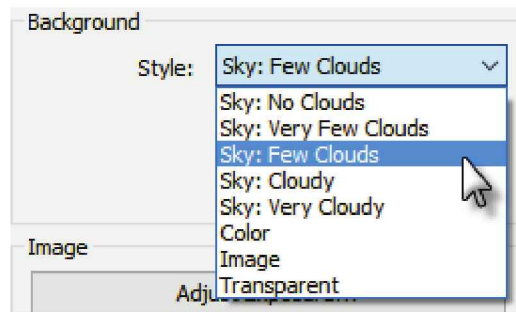

FIGURE 15-2.22 Background Style
54. Click the down-arrow next to *Style* in the *Background* area (Figure 15-2.22); if your options are different, verify the *Engine* setting above.